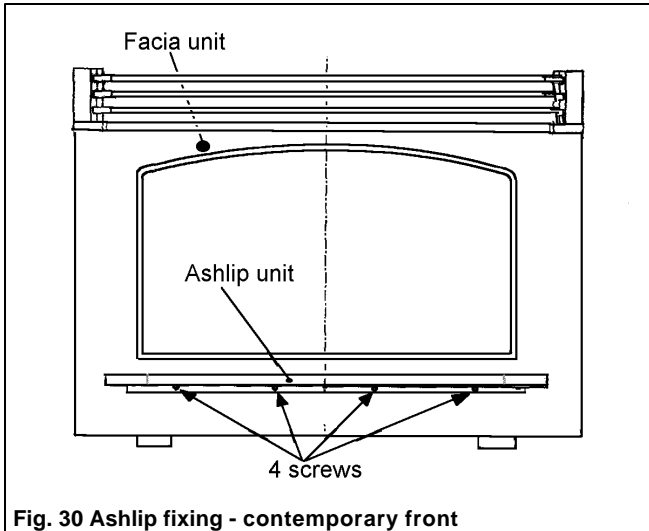

Fig. 30 Ashlip fixing - contemporary front
18.1 Contemporary front only: Fit the ashlip to the fascia unit with 4 screws (see figure 30).